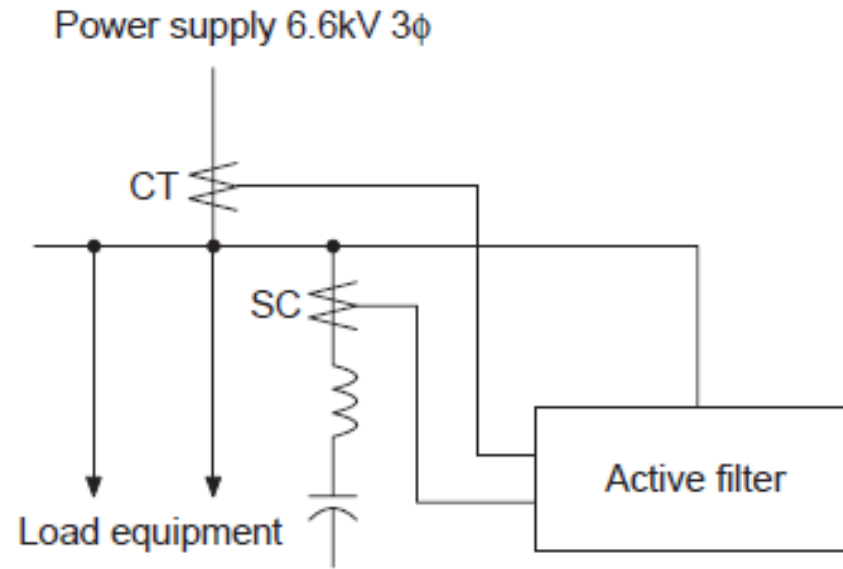

Fig. 5.18 Active Filter Connection Example
- Fig. 5.18 shows an active filter model.